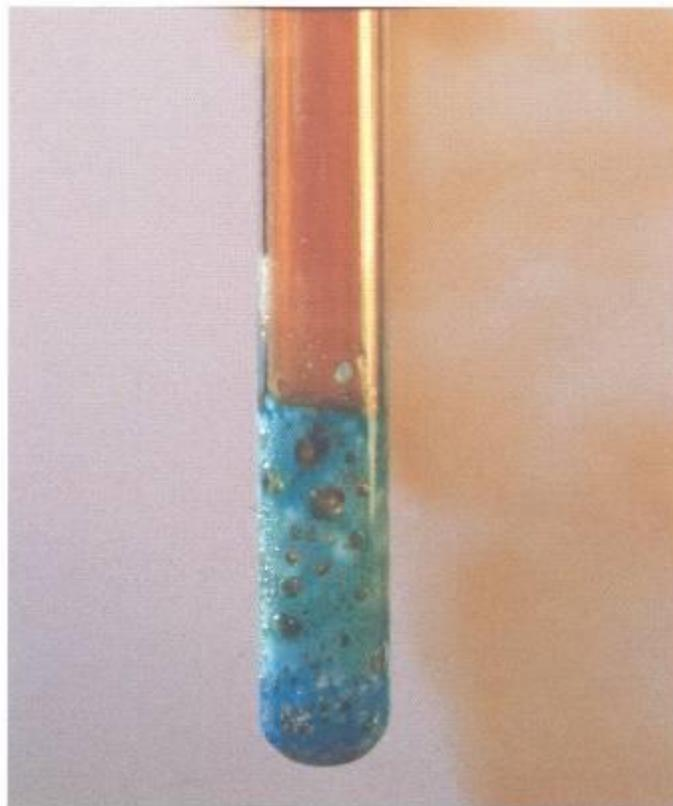

Figure 15.8 Copper reacting with concentrated nitric acid.
- It will oxidise copper to copper(II) nitrate (Figure 15.8).